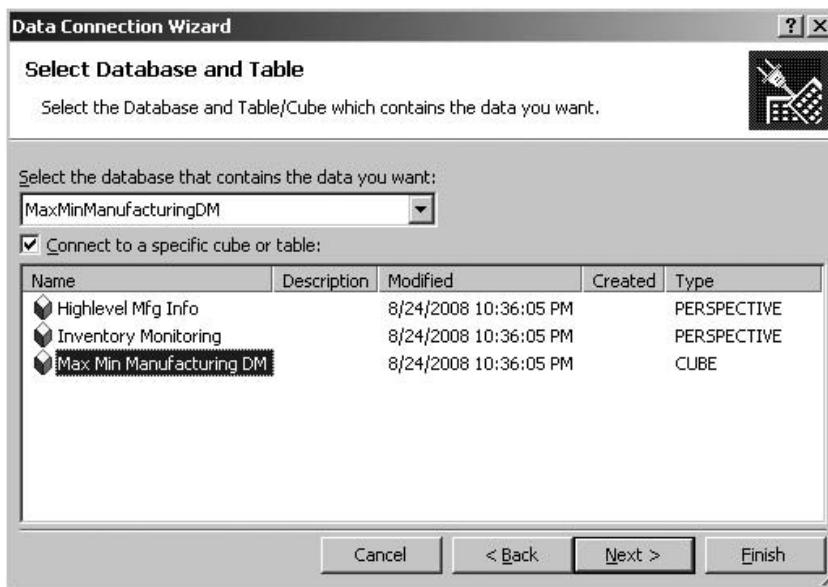

Figure 19-5 The Select Database and Table page of the Data Connection Wizard
13. Select the Max Min Manufacturing DM cube from the list of cubes and perspectives. The Select Database and Table page of the wizard appears, as shown in Figure 19-5.